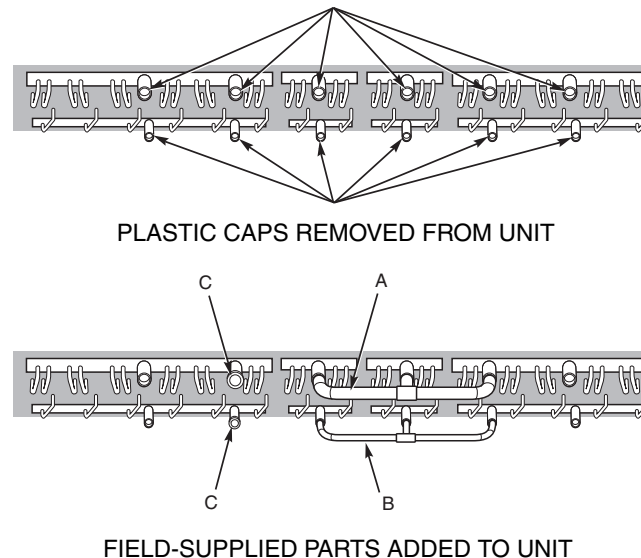

Fig. 15 — 09DK044 Unit with 60/40% Circuiting
1. Remove all plastic caps. Refer to Fig. 15.
2. Attach following parts as shown in Fig. 15. Perform phos-copper brazing on all field-made connections while protecting adjacent joints from heat.
- a. Construct the 60% gas tubing assembly (Item A), consisting of the following parts, and braze it into gas headers as shown in Fig. 15, Item A:
- b. Construct the 60% liquid-tubing assembly (Item B) consisting of the following parts and braze it into liquid headers as shown in Fig. 15, Item B:
- c. Plug the open 1 $\frac{1}{8}$ -in. diameter stub tube on the left gas header and the open $\frac{5}{8}$ -in. diameter stub tube on the left liquid header as shown in Fig. 15, Item C. Parts required: